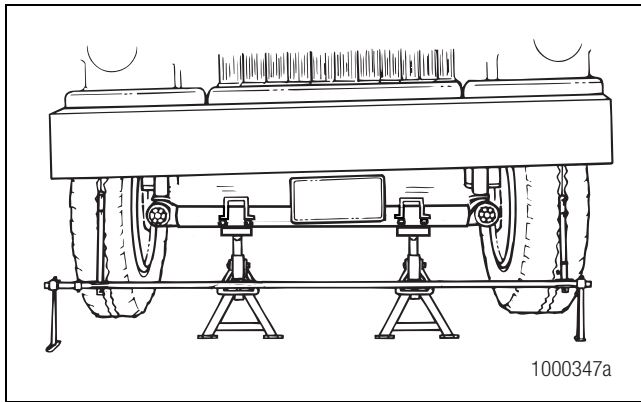

Figure 10.33
4. Place the pointers of a trammel bar on the marks of each tire. Rotate the tires. Verify that a straight line is marked on the outer surface of the tire. Figure 10.33.